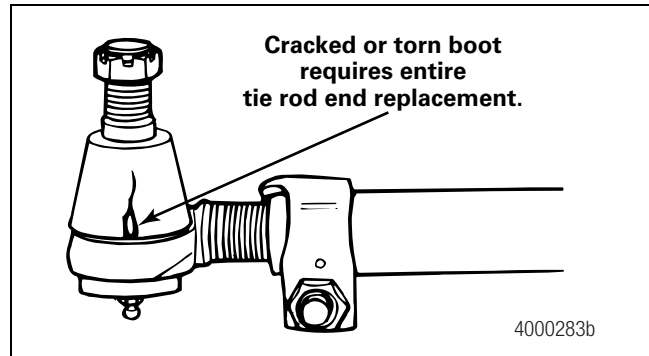

Figure 6.19
4. Check the tie rod boot for cracks, tears or other damage. Also check the boot seals for damage. Replace the entire tie rod end if the boot is damaged or missing. Figure 6.19.